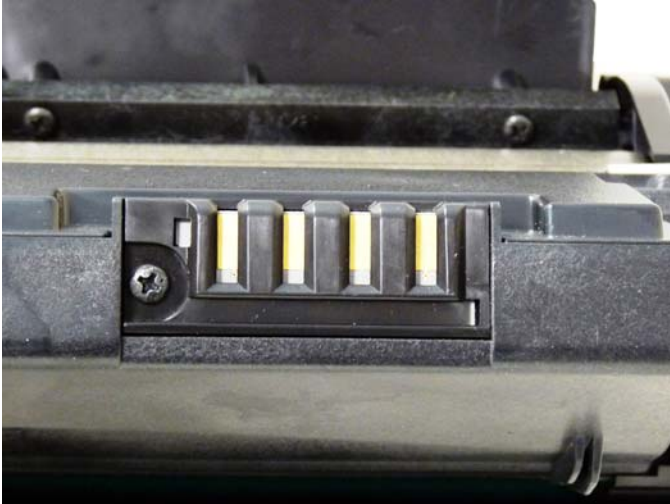

Figure 75
68) Remove the screw and cover for the chip. Replace the chip. See **Figure 75**